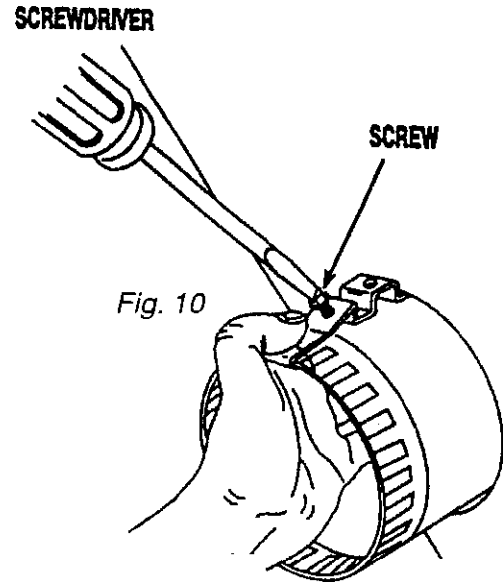

Fig. 10
5. Maintain the position of the clip with one hand and secure the screw with the other hand. Make sure the screw is snug against the flex pipe, but do not break through. (Fig. 10)